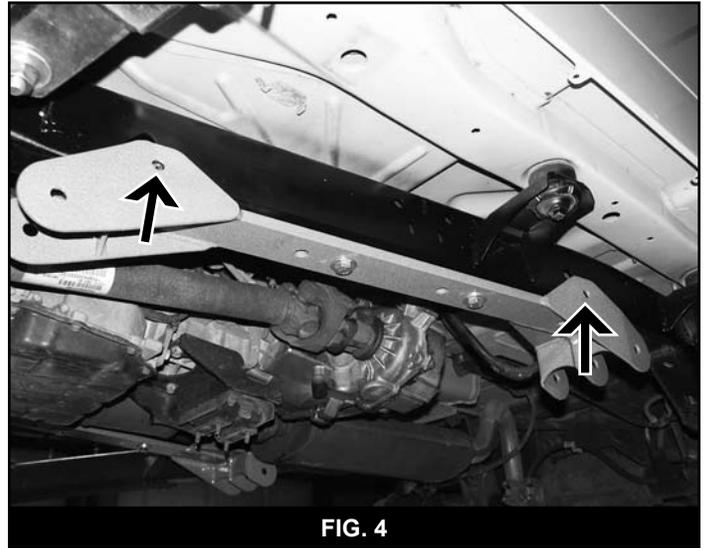
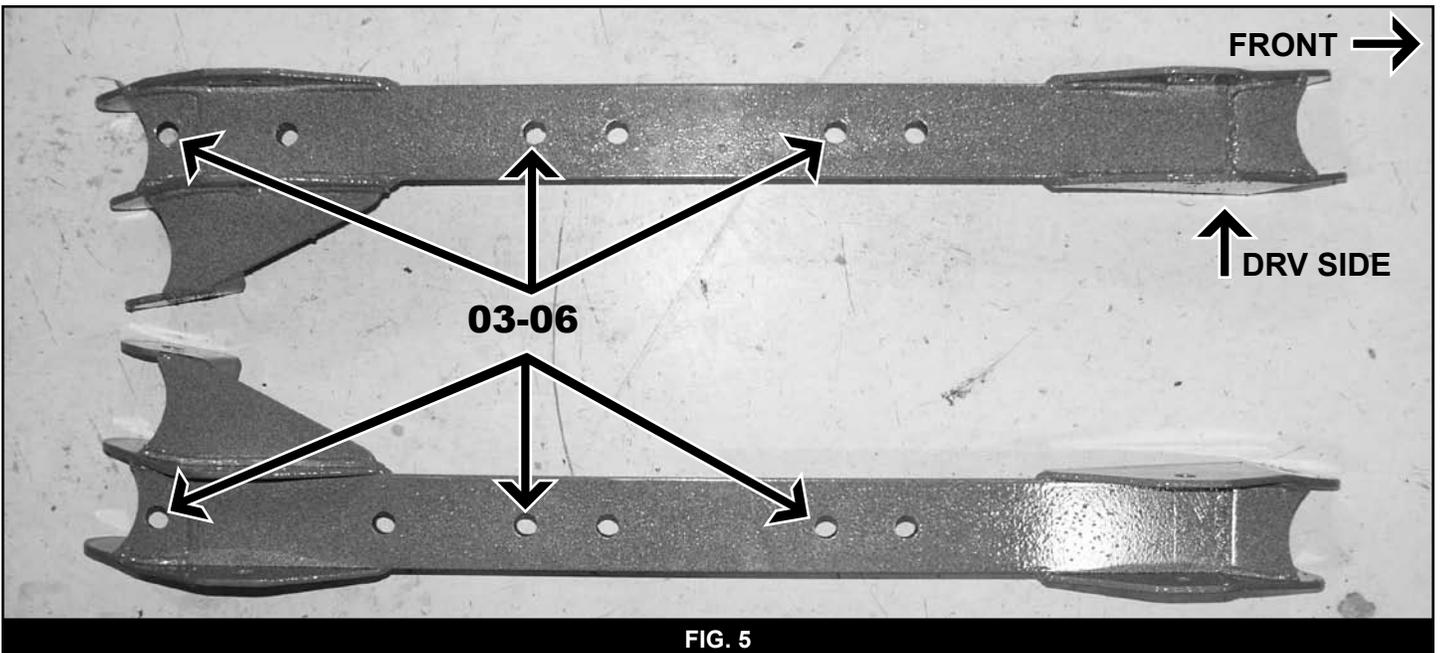

FIG. 4
FIG. 5
8. Mount the new provided lower control arm subframes (01380-drv, 01381-pass) to the vehicle using the provided hardware (Fig 4). For 97-02 models use 1/2" x 2" bolts. For 03-06 models use 12mm x 50mm bolts (BP 732). Attach the subframes to the frame rails using the mounting holes that are correct for the model year of vehicle – see figure 5. Snug the hardware so that the subframes are mounted tight to the frame.
9. With the subframes properly mounted in position, using the holes in the subframes as a guide, mark the horizontal mounting holes (Fig 4) to be drilled in the frame (4 holes total).